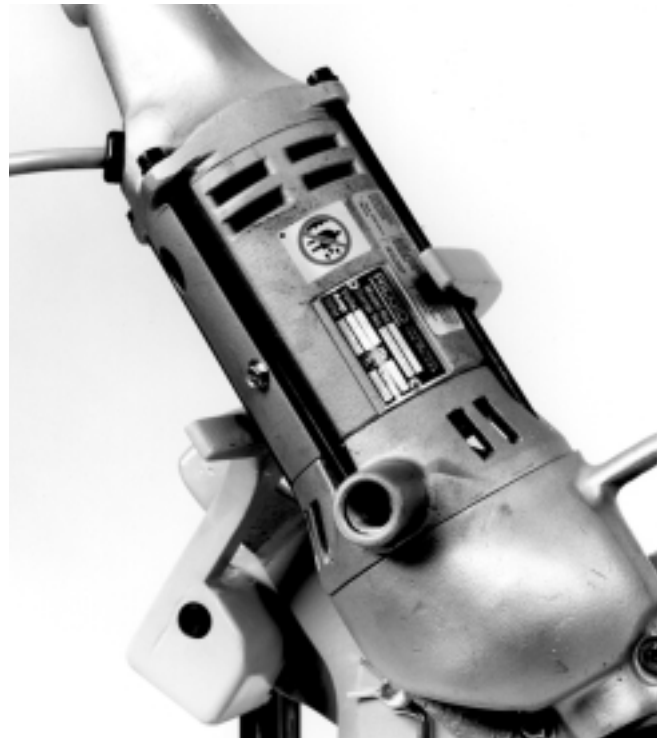

Figure 5 – Position Power Drive Inside Reaction Arm
- b. Place power drive with adapter on the cutter. Power drive and adapter connect to the square drive on the cutter. Be sure power drive rests inside the reaction arm at the rear of the cutter (Figure 5).